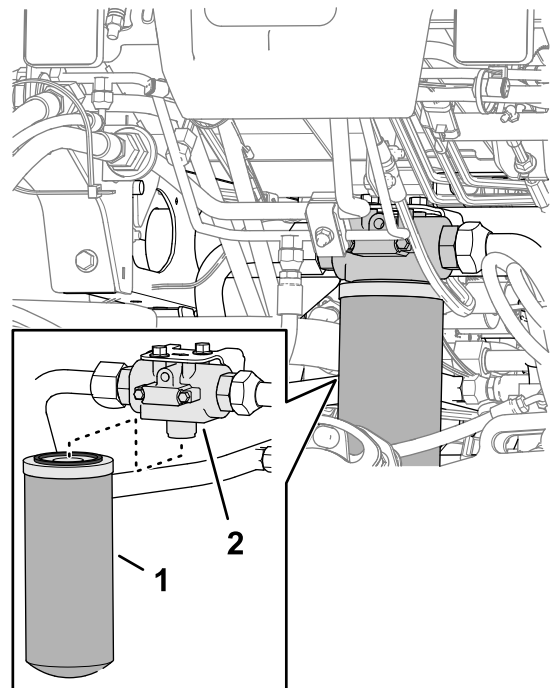

Figure 148
2. At the front of the machine, align a drain pan under the return filter (Figure 148).